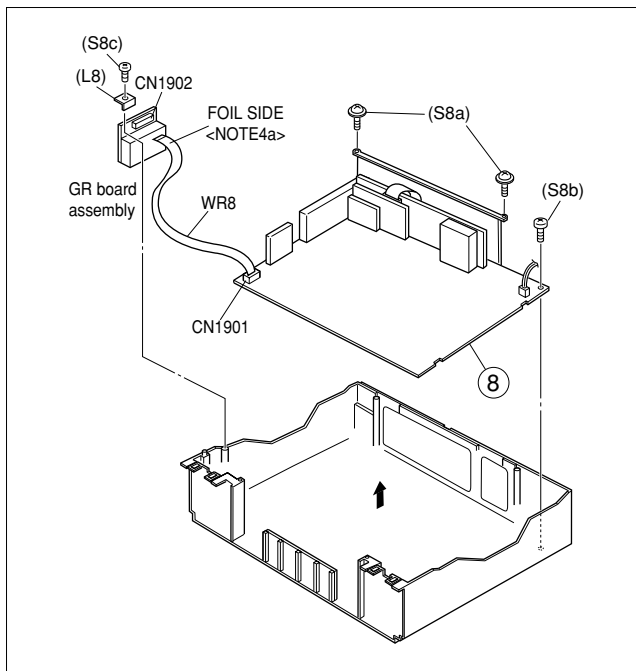
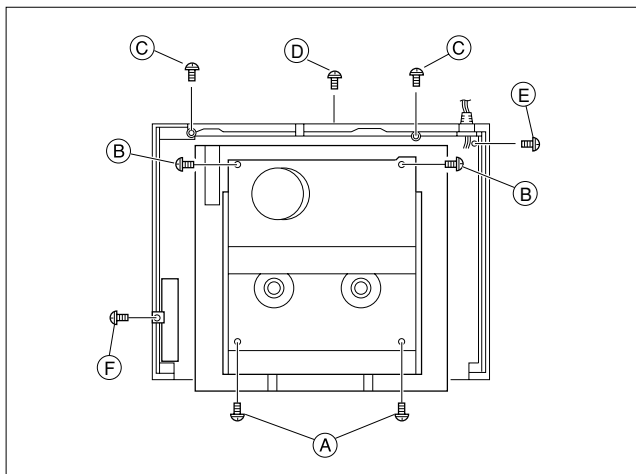

Fig. D8
Fig. 1-4-1
- (1) Remove the Top cover, Bracket, Front panel assembly and JACK board assembly. (Refer to 1.3 DISASSEMBLY/ASSEMBLY METHOD.)
- (2) Lower the cassette holder, and make the preparations required in order to remove the screws from the Mechanism assembly. (Refer to the "Procedures for Lowering the Cassette holder assembly" on page 1-2 of 1.3 DISASSEMBLY/ASSEMBLY METHOD.)
- (3) Take out 2 screws (A) and 2 screws (B) as shown in Fig. 1-4-1.
- (4) Remove the flat wires from CN3011 and CN1901 on the Main board assembly.
- (5) Take out 2 screws (C), 1 screw (D) and 1 screw (E) as shown in Fig. 1-4-1.
- (6) Take out 1 screw (F) as shown in Fig. 1-4-1, and remove the GR board assembly. (Take care not to pull the flat wire (Fig. D8) from CN1902.)